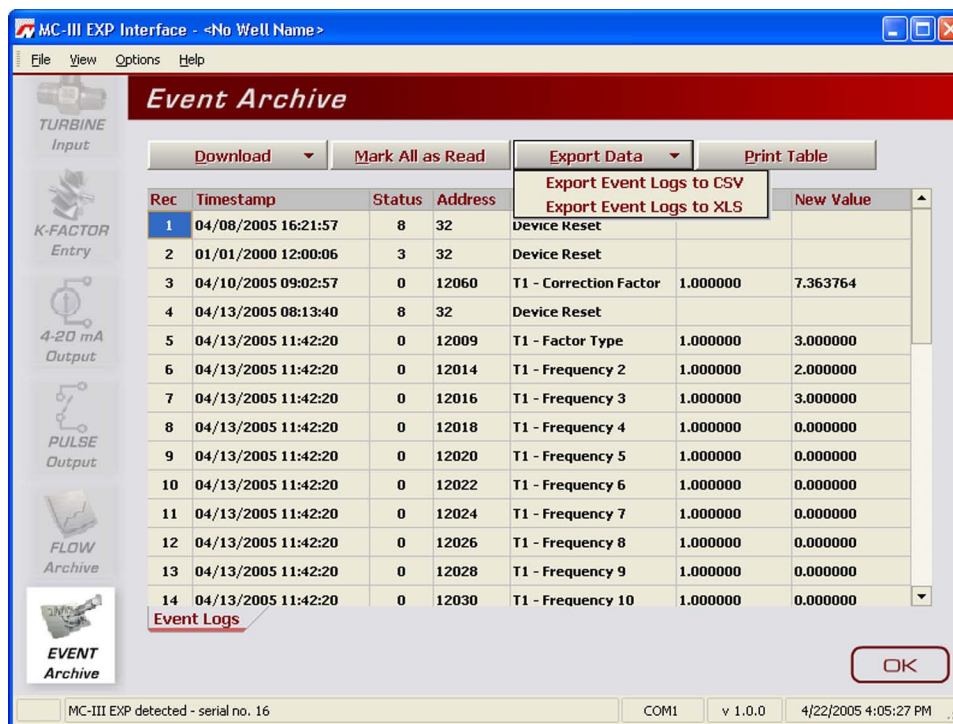

Figure 5.17—Dropdown menu for exporting log data
1. Click the “Export Data” button near the top of the Event Archive screen and select the .xls or .csv format (Figure 5.17, page 90).